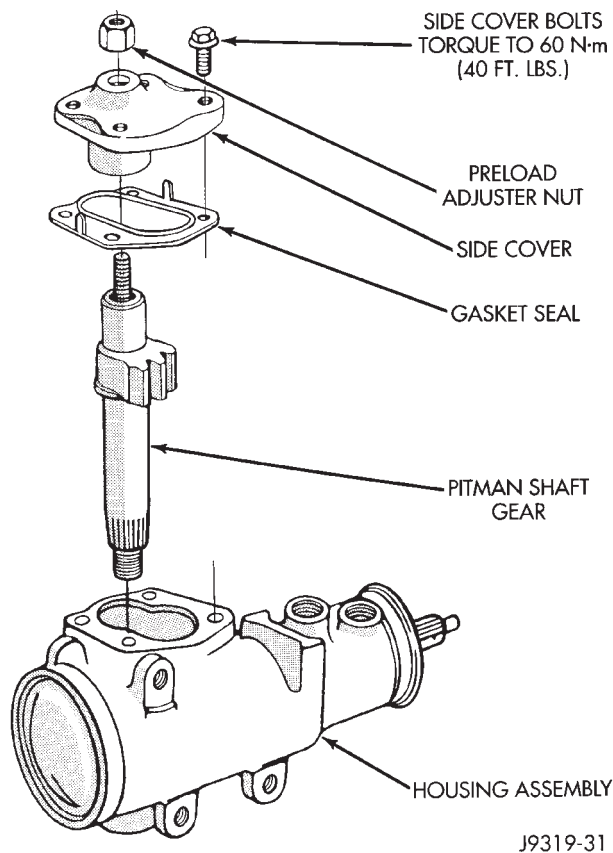

Fig. 14 Side Cover and Pitman Shaft
- (1) Remove preload adjuster nut.
- (2) Remove side cover bolts. Rotate stub shaft with socket to center gear.
- (3) Remove side cover, gasket and pitman shaft as an assembly.
- (4) Remove pitman shaft from the side cover (Fig. 14).